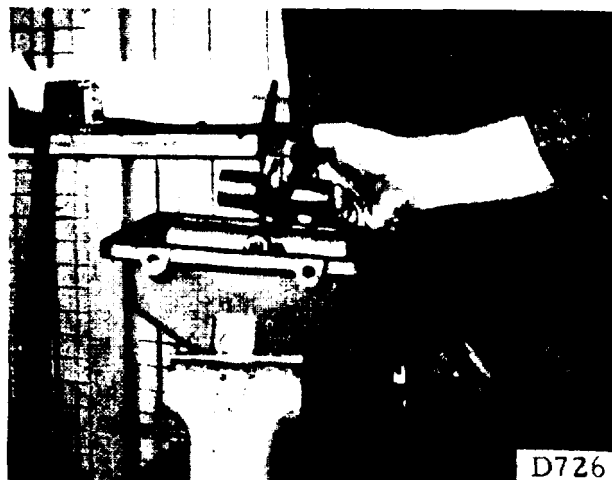

FIGURE 7-70.
(2). With the crank pin slot in the yoke in line with the crank pin, lower the yoke into the tower (see figure 7-70). Align the yoke bore with the end of the shaft in the tower. Push the shaft partially into the bore.